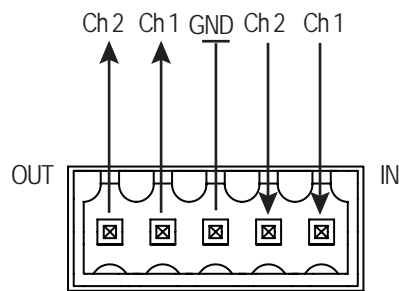

Figure 2-4
2. Connect the other end of this cable to the front panel data terminal block connector on the LBO-SDI-AD-T (see Figure 2-4).